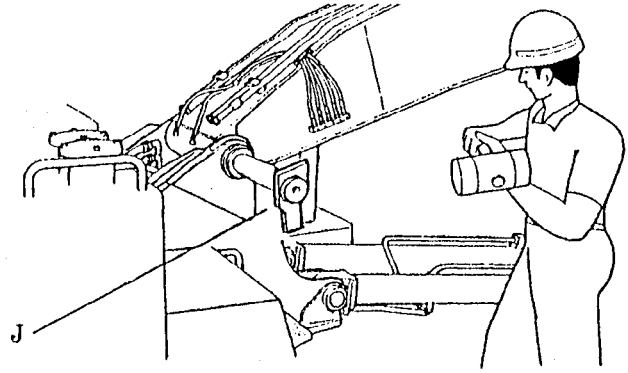

Fig. 13
6) Place a sling in the boom, lift it with a crane and remove the capscrew and plate fastening pin (J) that links the boom with the swing frame. Then draw out the pin (J) by tapping it from the opposite side.(See fig. 13)